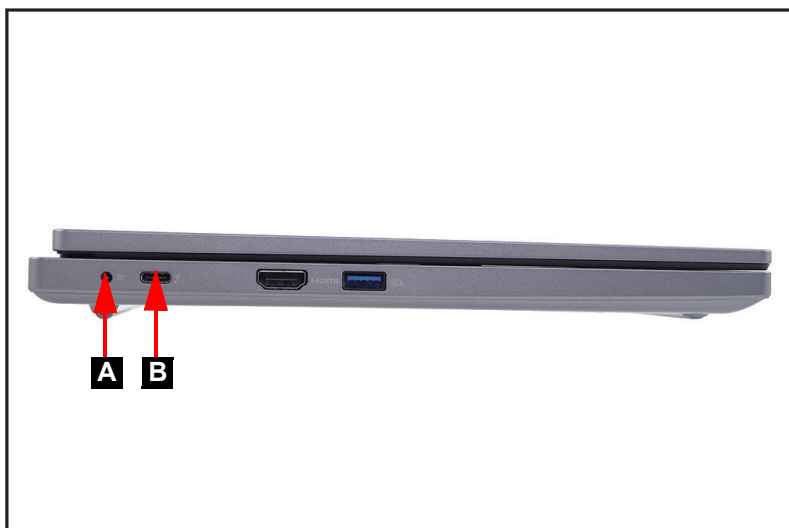

Figure 1-1. AC Adapter Outlet
2. Remove AC adapter from any of the ports (A) or (B) of the system and from peripherals (Figure 1-1).